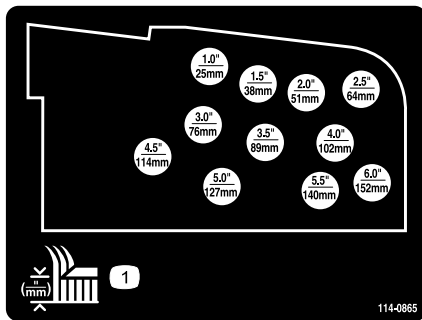

Figure 25
- Mount the height-of-cut chains to the desired height-of-cut hole (Figure 25) with the clevis pin and hairpin cotter.